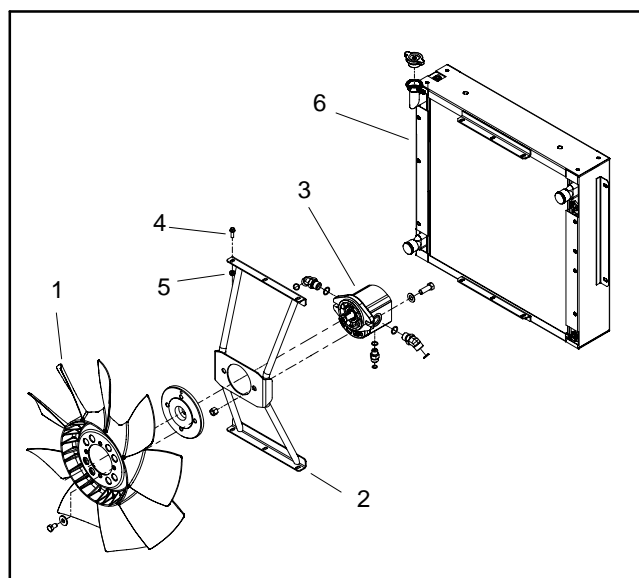

Figure 9
5. Remove air cleaner hose (item 6).
6. Remove four (4) flange head screws and flange nuts that secure plenum (item 7) to radiator mount. Remove plenum.
7. Disconnect reservoir hose (item 39) from the radiator vent tube.
10. Remove six (6) cap screws and flange nuts that secure fan motor bracket to radiator (Fig. 9).
12. Remove four (4) flange head screws and flange nuts securing the radiator and recirculation barriers (items 24 and 25) to the radiator mount. Carefully remove barriers and radiator from the machine.
2. Carefully position radiator and recirculation barriers (items 24 and 25) to the radiator mount. Secure radiator and barriers in place with four (4) flange head screws and flange nuts.
4. Secure fan motor bracket to radiator with six (6) cap screws and flange nuts (Fig. 9).
7. Connect reservoir hose (item 39) to the radiator vent tube.
9. Install plenum (item 7) to radiator mount and secure with flange head screws and flange nuts.
10. Install air cleaner hose (item 6) to the air cleaner and plenum.